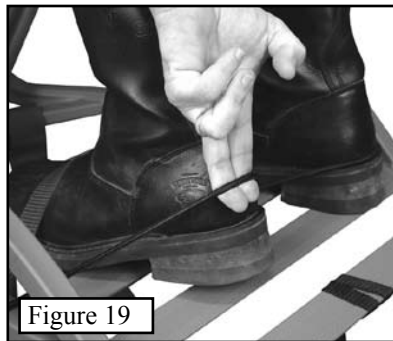

Figure 19
Step 2. Your foot strap and bungee heel cords should be already attached to your treestand. Loosen the foot strap assembly by releasing the spring lever buckle and sliding the green webbing through until you have plenty of room for the front of your boot (See **Figure 18**). Once both feet are under the green strap, pull the free end to tighten the webbing. **YOU MUST** pull the elastic heel cord around the back of your boot, as shown in **Figure 19**.